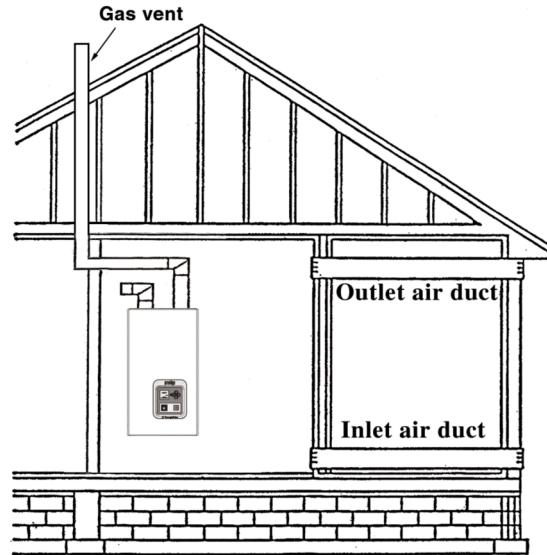

Fig. 4: All Combustion Air from Outdoors Through Horizontal Ducts
- Where communicating with the outdoors is through horizontal ducts, each opening shall have a minimum free area of not less than 1 sq.in./2000 Btu/hr of total input rating of all equipment in the enclosure. See Fig. 4.